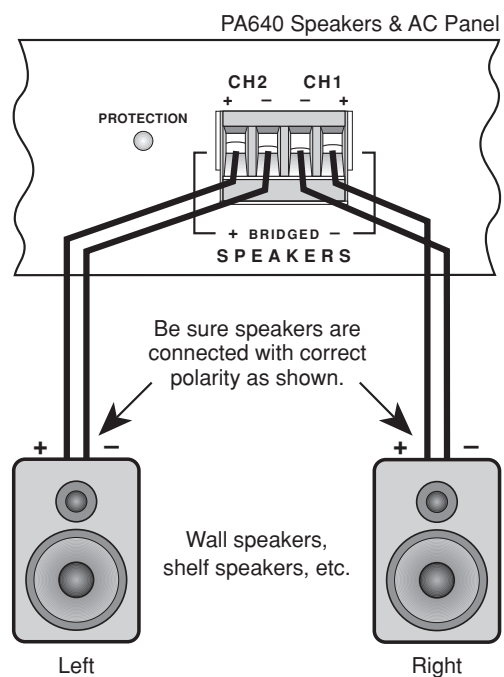

Fig. 6 STEREO Mode Connections
- Using good quality RCA type patch cables, connect the L and R OUTPUT jacks of the driving preamp to the CH1, CH2, etc. LINE INPUTS jacks on the PA640. Do this for each amplifier pair. Refer to Fig. 6.
- Be sure to observe correct polarity by connecting the "+" and "-" terminal from each channel on the PA640 to the corresponding "+" and "-" terminals on each speaker. This will ensure correct "phasing". See Fig. 6 and Speaker Phasing below.
- If the "+" (positive) and "-" (negative) terminals on your speakers are correctly marked, and visible, and you have wired the system as shown in Figs. 6 and 7, then the system will be "in phase". No further action is required.
2. No sound from CH2, CH4 or CH6 when stereo operation is desired.	<ul style="list-style-type: none"> • BRIDGED/STEREO switch is incorrectly set to BRIDGED position. Set to STEREO position. See Fig. 6.